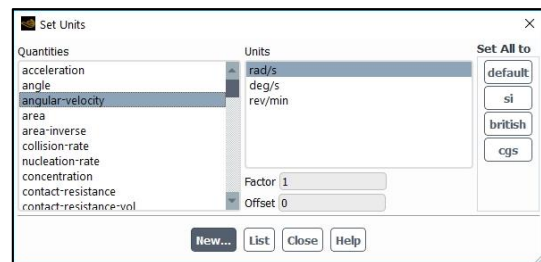

Figure E3-10. *Units settings dialog box*.
3. *Units* → ensure that the unit of the *angular velocity* is set up as *rad/s* (Fig. E3-10),